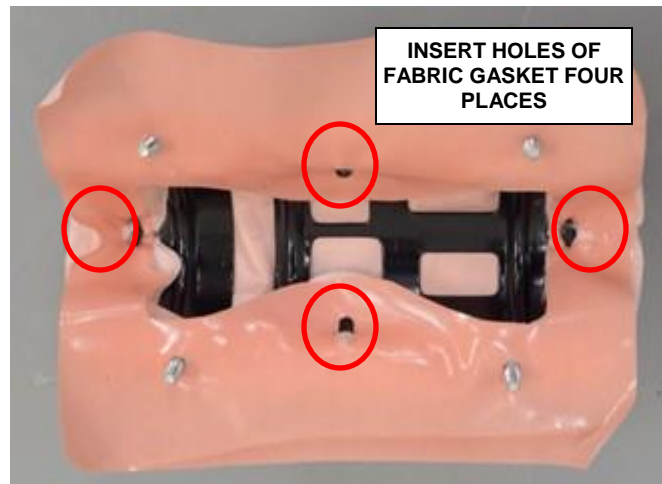

Figure 105 – Fabric Gasket
- j. With the help of a trim tool insert the holes of fabric gasket, four places (Figure 105).